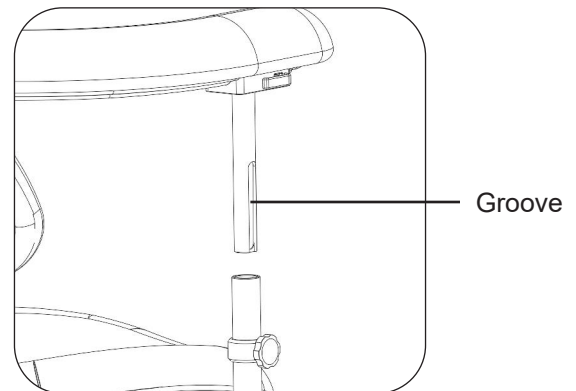

Figure 8
1. Slide collar and insert the body support into the swing arm (Figure 8)
2. Ensure the collar and knob are lined up with the groove on the body support mount when inserting (Figure 8)
3. Tighten knob to desired height (Figure 8)